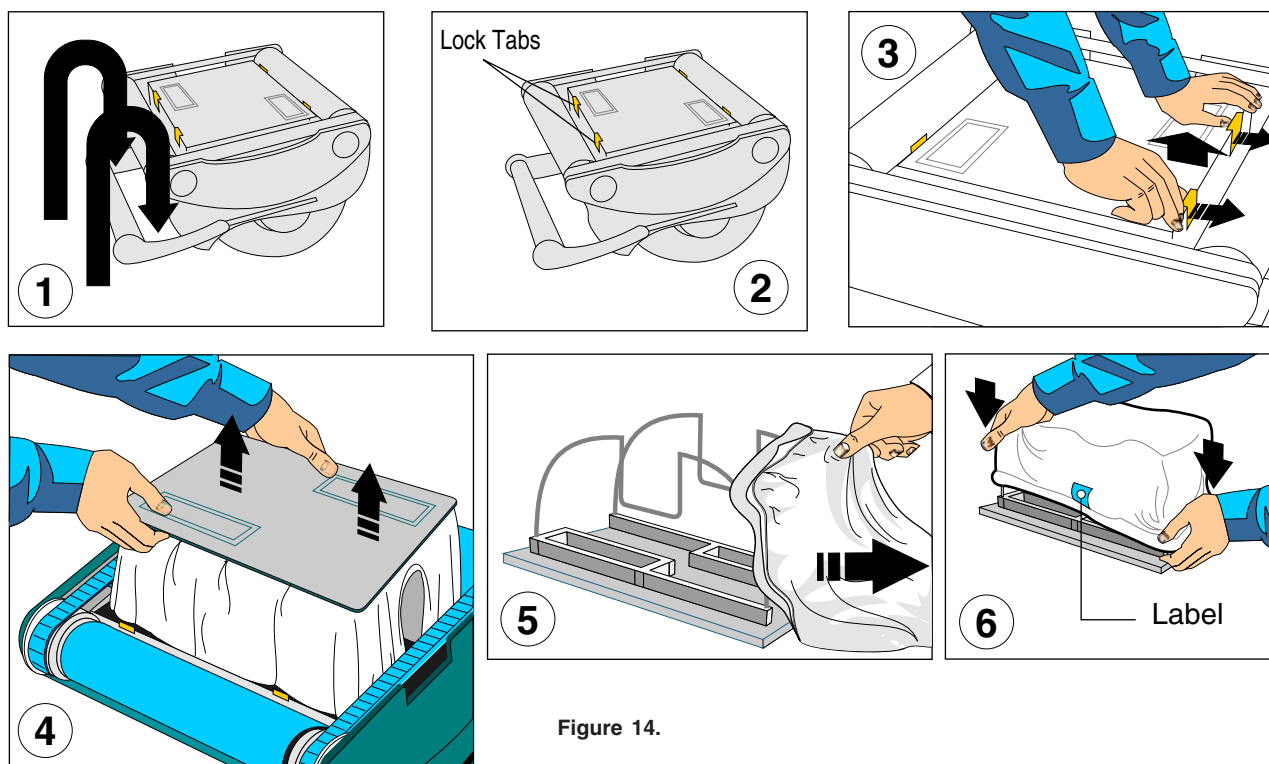

Figure 14.
3. Lay the unit on its back on a smooth surface, (in order to prevent scratches on the machine body), unlock and remove the bottom lid assembly, see Figure 14, Steps 1 - 4.
6. Re-install the bottom lid assembly onto the body. Push down on it until all (4) locking tabs snap properly into place.
1. Turn the robot upside down and remove the bottom lid assembly as shown on page 9, Figure 14, Steps 1-4.